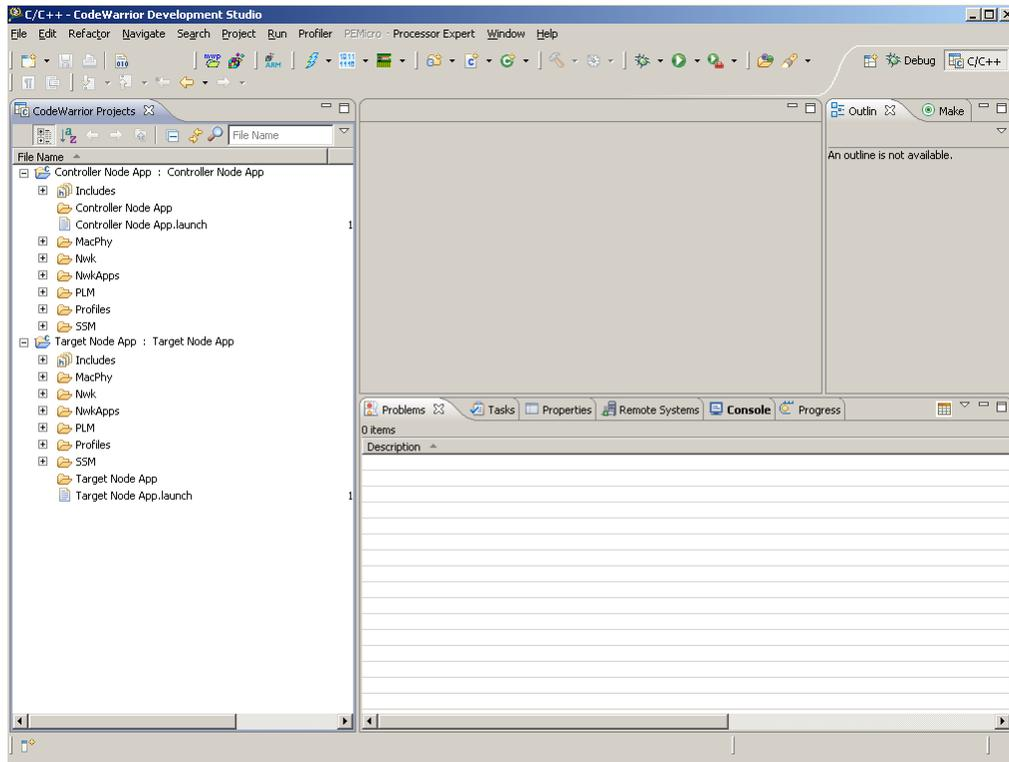

Figure 2-22. CodeWarrior Controller Project Window
10. CodeWarrior loads the project file as shown in Figure 2-22.